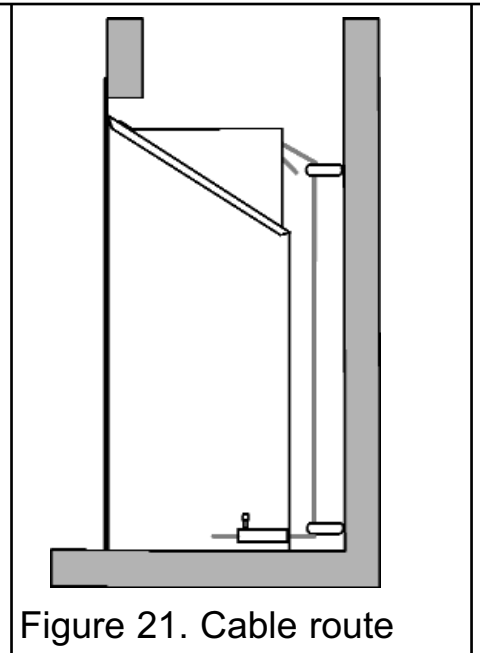

Figure 21. Cable route
10. Thread the cables through the eyebolts. Return the cables through the holes near the bottom of the convection box back panel (See figure 21).